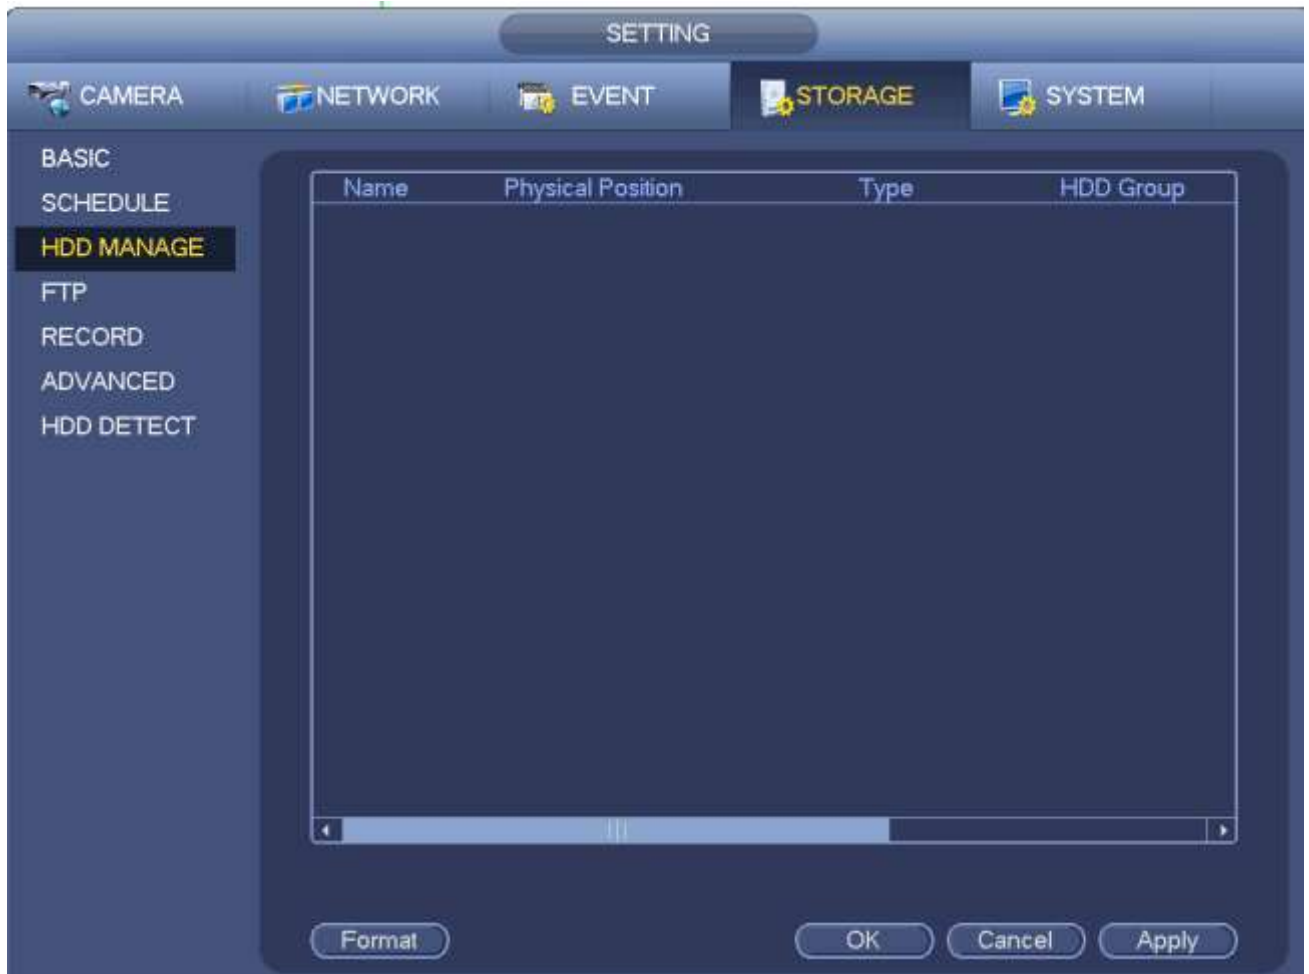

Figure 4-185
Step 1 From Mani-menu->Setting->Storage->HDD Manager, you can go to HDD management interface. See Figure 4-185.